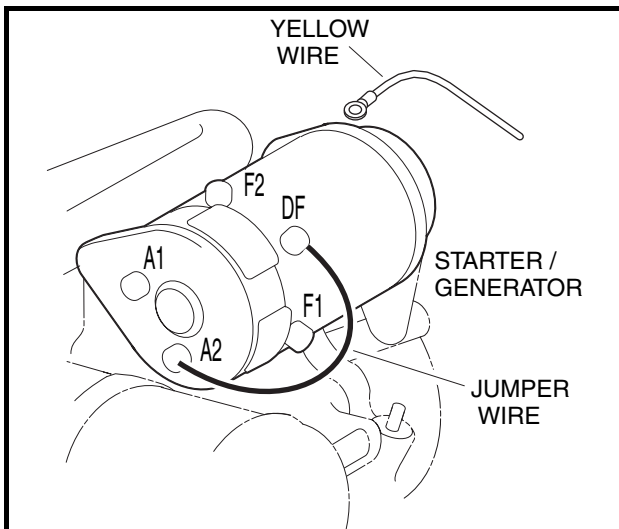

Figure 11-16 Jumper Wire Ground – DF to A2
3. Disconnect the yellow wire from the DF terminal on the starter/generator. Cover the connector on the yellow wire to make sure the yellow wire will not short to ground. Then, using a jumper wire, ground the DF terminal to the A2 terminal (**Figure 11-16, Page 11-18**).